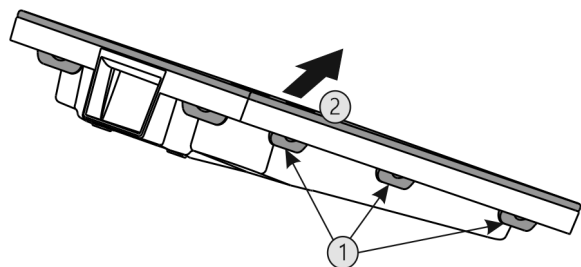

Fig. 41
- ▶ Press all lugs Fig. 41 (1) in succession and remove the lid Fig. 41 (2).